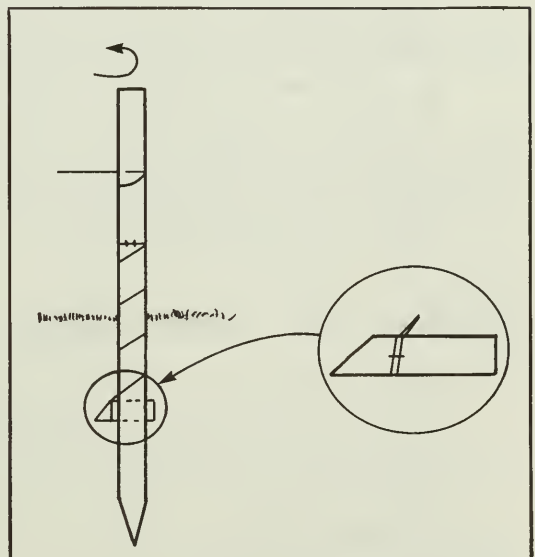

Fig. 19 Deadman anchor to prevent excessive twisting of end post.
2. Drive the post to a depth of 122 cm. Some soils may be particularly loose (such as bogs) in which case strengthen posts if possible by placing deadman anchors (Fig. 19). Each anchor is constructed from a short (30-cm) piece of 10 × 10 cm treated post. Cut one end of this on a 45° angle and fasten a cable (made from